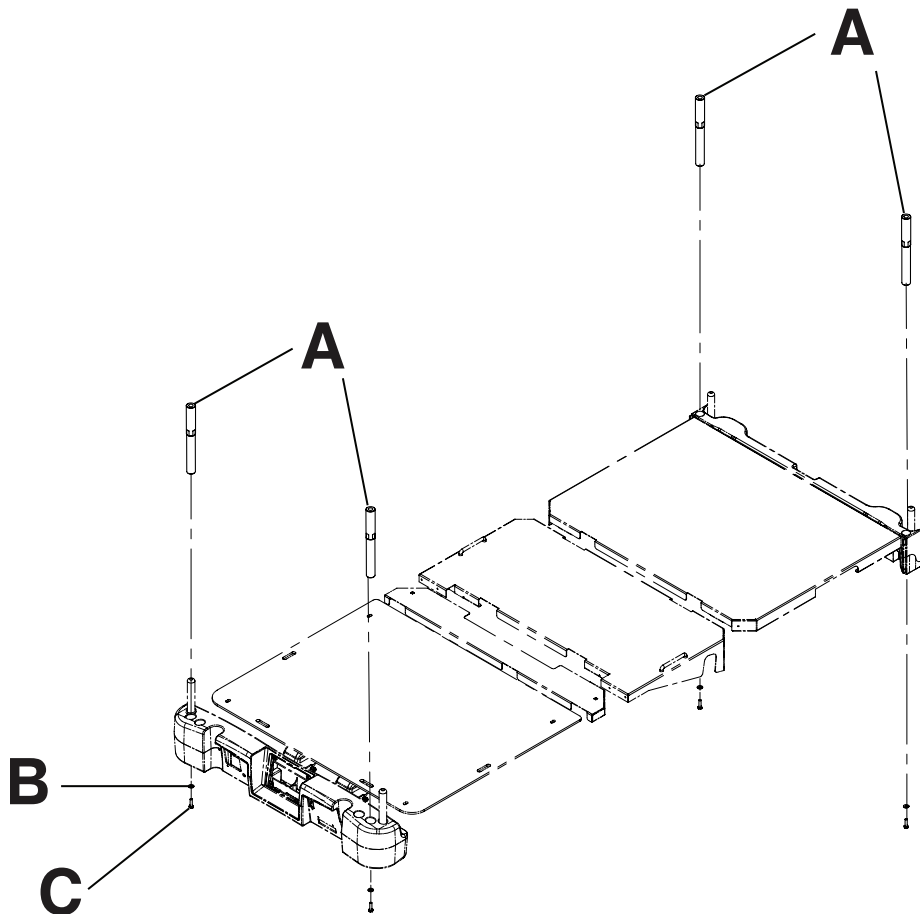

Figure 1-135: Traction sleeves
1. Install the traction sleeves into the sockets at the head end and foot end of the product (A) (Figure 1-135 on page 1-114).
2. Using a 7/16 in. combination wrench, install one washer (B) and one bolt (C) to secure the traction sleeve in the socket (Figure 1-135 on page 1-114).